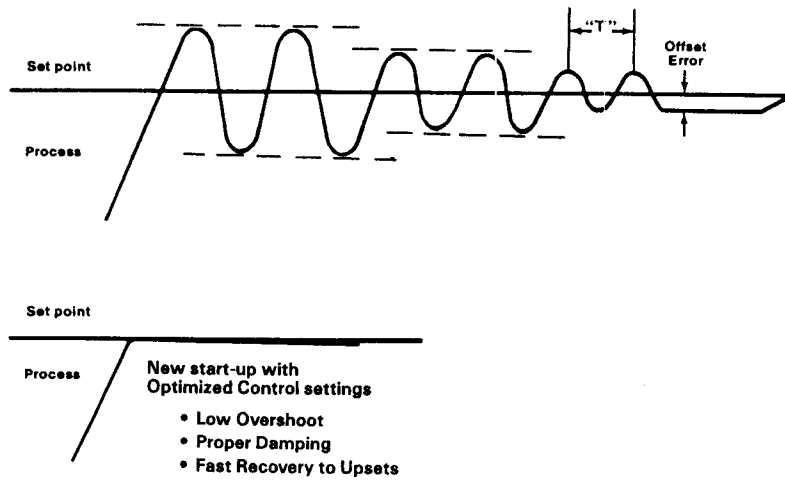

Figure 5-3. Ziegler-Nichols Tuning Method
3. Set Heat Gain (HG) and Cool Gain (CG) to 400 (even if no cooling is to be used, the cooling gain should be set the same as the heat gain). Disconnect the cooling apparatus.
4. Press STANDBY again and temperature will begin to rise. When the process rises to the desired set point, it will probably oscillate. Periodically decrease the Gain (lower the HG number) until a small constant oscillation is obtained. Reducing the Gain by steps of 1/2 the previous HG setting is an acceptable method to obtain the desired small oscillation. Note time between oscillations in sections. (See "T" marked on Figure 5.3).
6. The best rate time (RT) setting is $1/8$ the time in seconds of one cycle (see cycle time "T" in Figure 5-3). This will give a conservatively tuned system. If faster response and/or faster rise to set point is desired, $1/12$ of "T" may be used. Note that faster settings may yield instability and temperature overshoots on start-up. Remember that the Reset automatically tracks the rate (rt) adjustment.